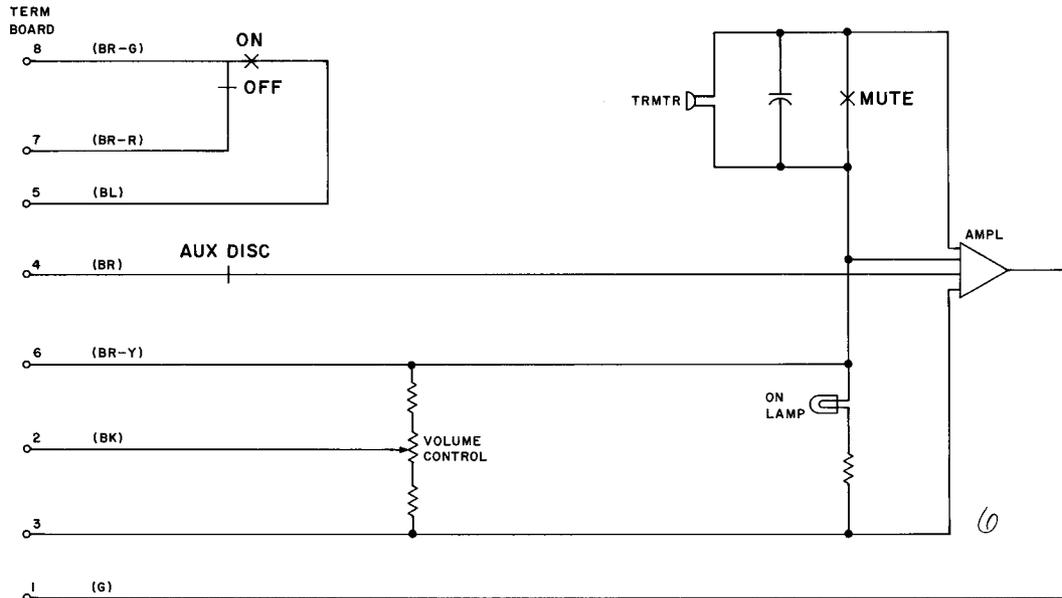

Fig. 6—670A (MD) Transmitter
2.10 External ♦670A (MD) and 671A (MD)♦ and are used in conference arrangements of 3-type speakerphone.
- 670A consists of an AC1 transmitter unit, transistorized amplifier, ON-OFF switch with 2-position ON switch for control of auxiliary 671A transmitters, volume control, plastic housing, and T9A mounting cord (Fig. 6).